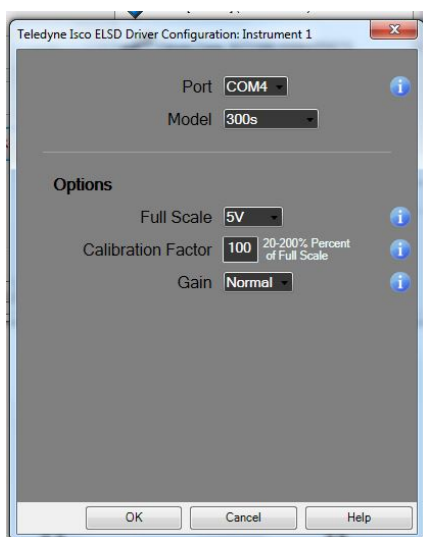

Figure 6: Configuring the instrument
4. Select the **Port**, it will usually be the only port available. If using a computer that has an RS-232 port, and the ELSD is on a USB port, use the COM that isn't the built-in RS-232 port. If the ELSD is plugged into the computer RS-232 port, choose the port used for the ELSD (Figure 6).
5. The **Options** default settings will work for most applications; see the ELSD manual for an explanation of these settings (Figure 6).
6. Click on the **OK** button to save changes, and exit the instrument configuration screen by pressing **OK** (Figure 6). The Agilent software will need to be restarted.